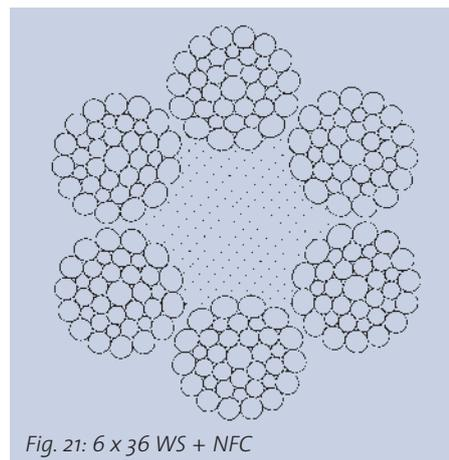

Fig. 21: *6 x 36 WS + NFC*
- Use of thicker ropes with small $D/d = 30$ and consequently the ability to select flexible multiple-wire rope constructions, Fig. 21.